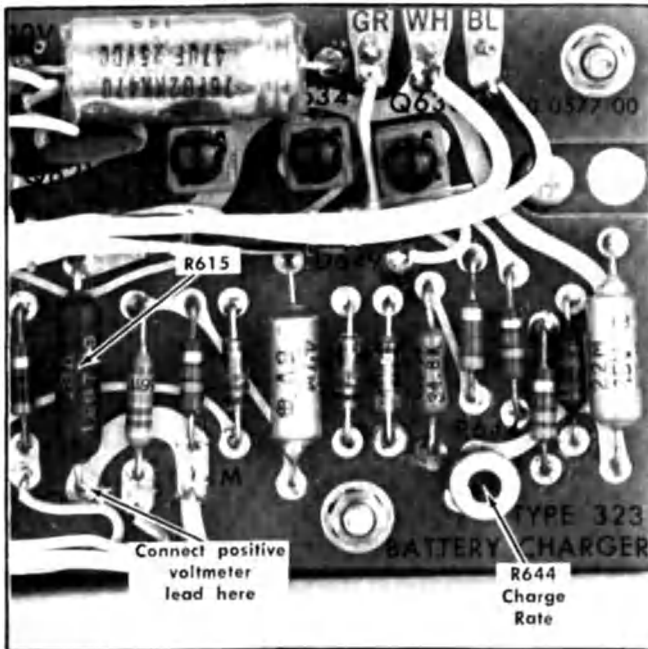

Fig. 6-2. Location of R615 and Charge Rate adjustment (Power Pack board).
b. Connect the precision DC voltmeter across R615 (see Fig. 6-2). The positive lead of the voltmeter should be connected to the bottom of R615. Be sure the negative lead of the voltmeter is isolated from ground.
d. ADJUST—Charge Rate adjustment, R644 (see Fig. 6-2), for a meter reading of 54 millivolts.